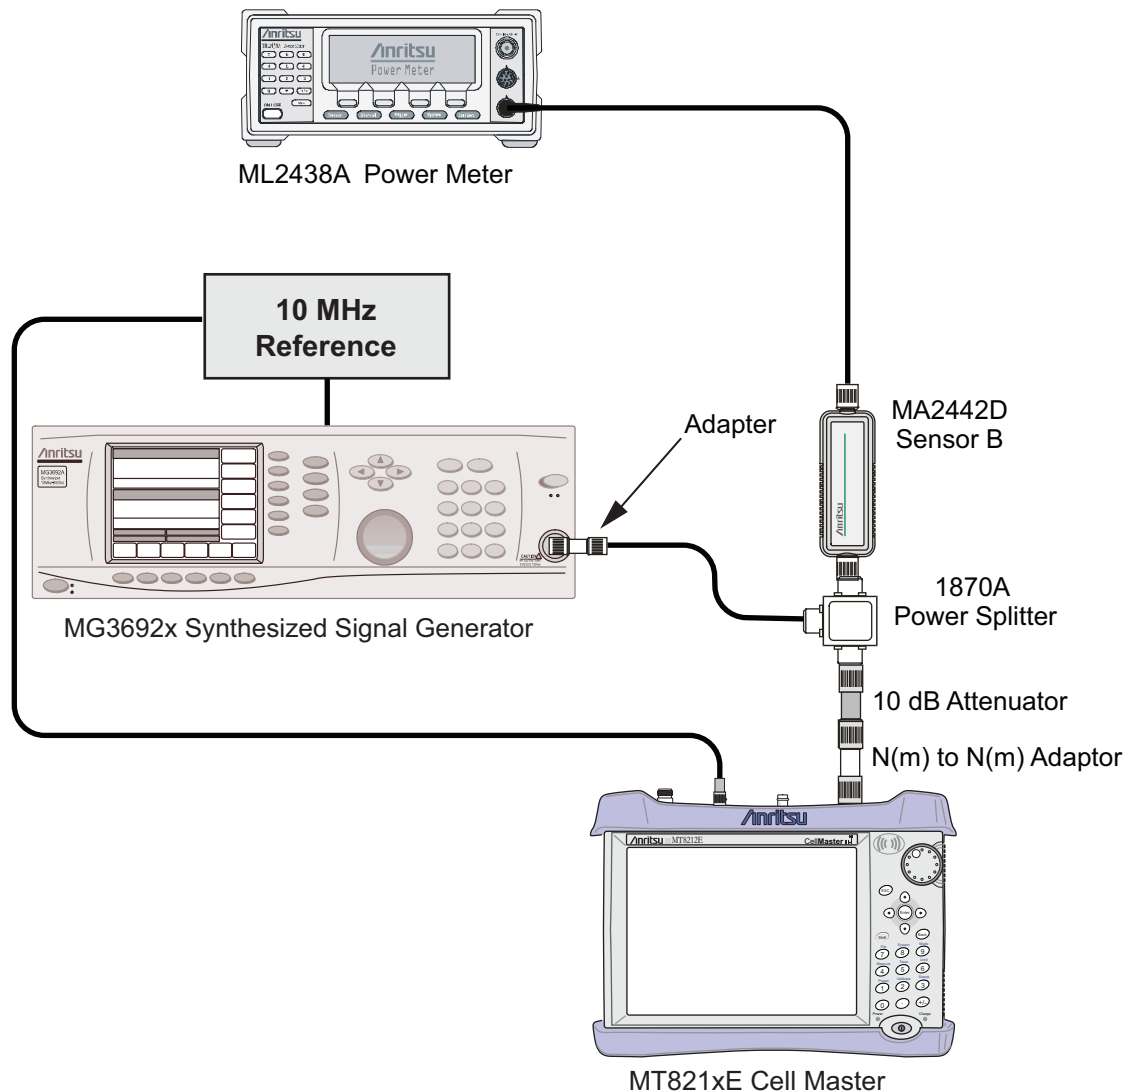

Figure 2-2. Absolute Amplitude Accuracy Verification Test Setup
1. Remove Sensor A, add the adapter, and connect it to the Spectrum Analyzer RF In connector of the MT821xE Cell Master as shown in Figure 2-2.